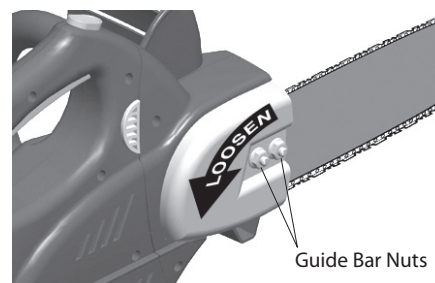

Figure 9 - Loosen Guide Bar Nuts
1. Loosen guide bar nuts before adjusting chain (see Figure 9).